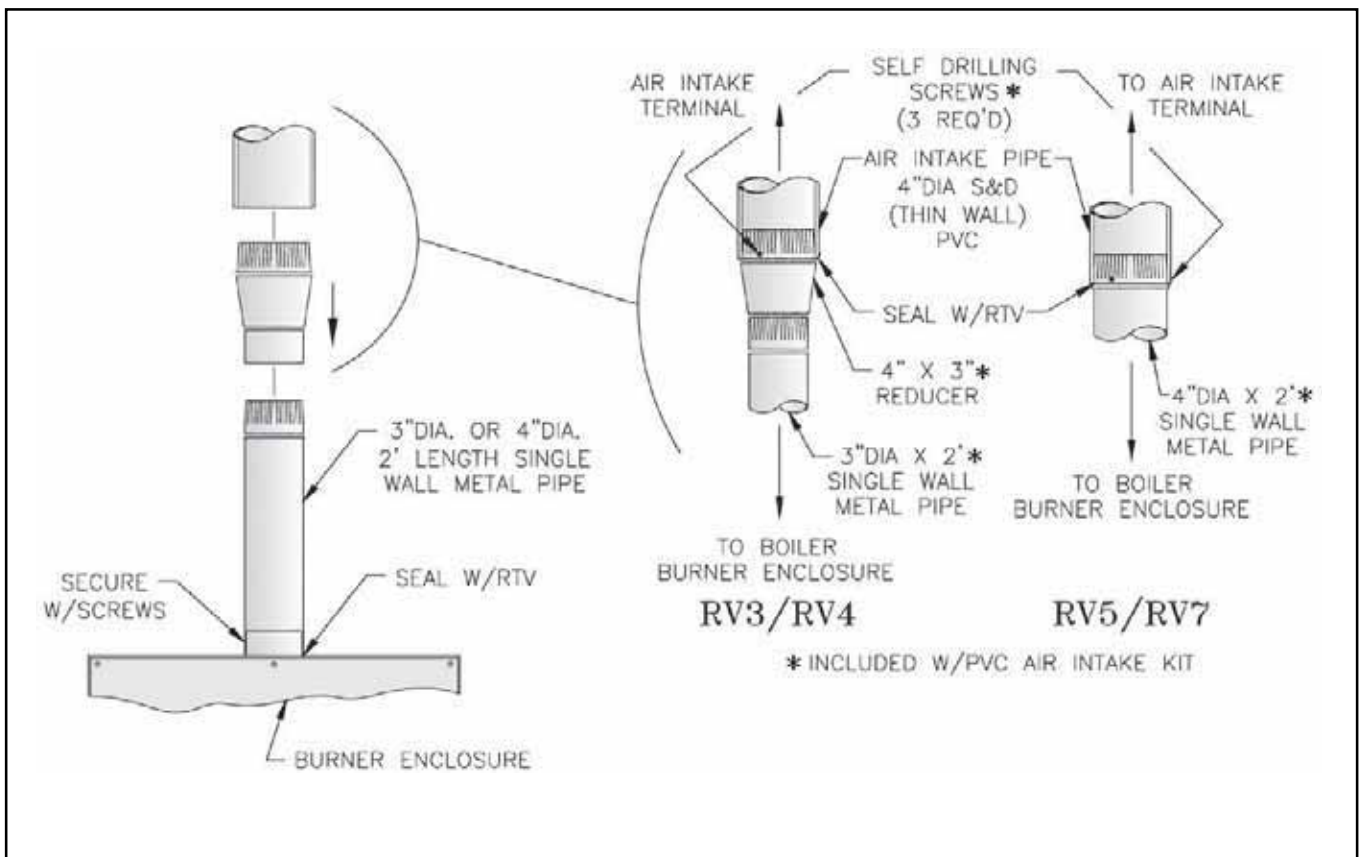
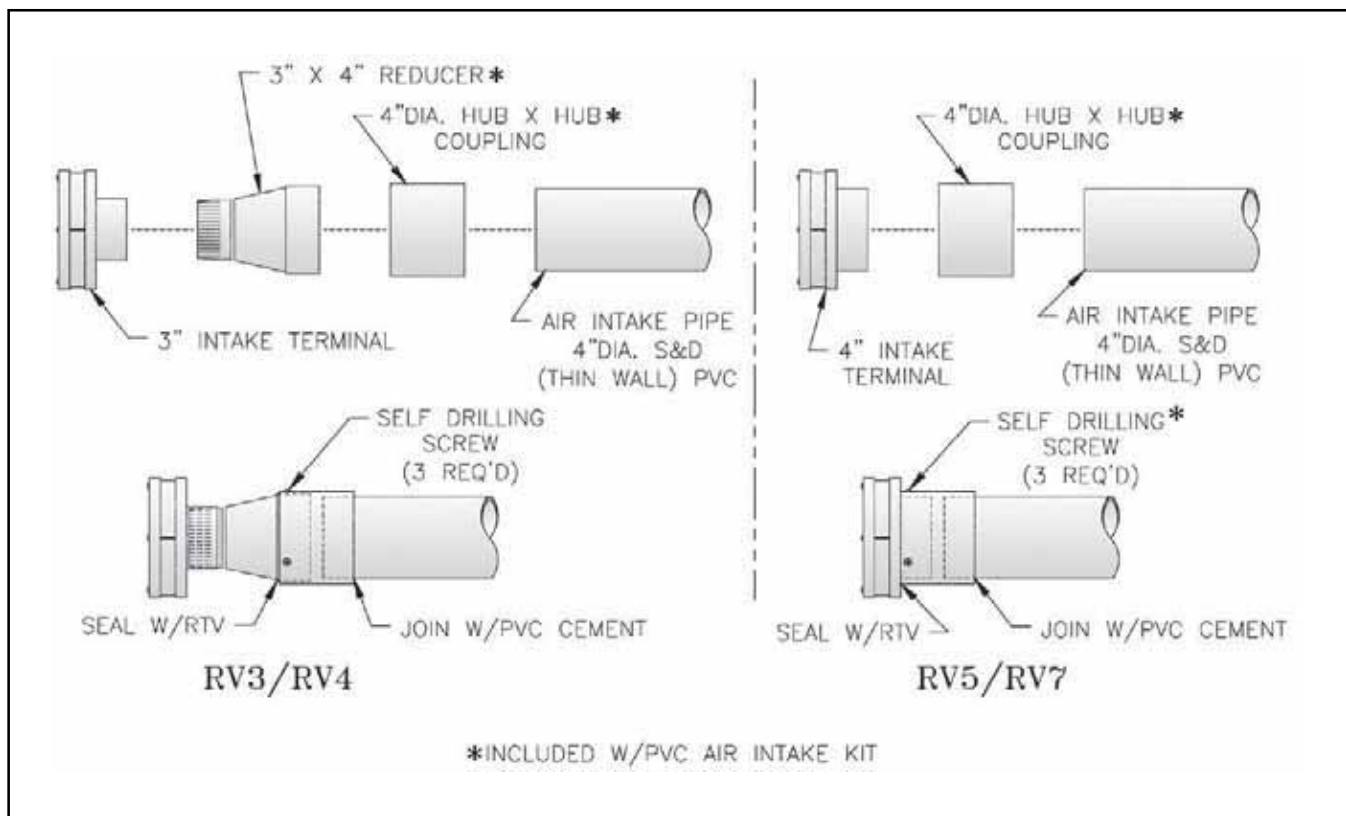

Figure 20: PVC Air Intake - Air Intake Pipe Installation
Figure 21: PVC Air Intake - Separate Horizontal/Vertical Air Intake Terminal Installation
K. PVC Air Intake System – See Figures 20, 21 and 22.
- a. Secure with three (3) sheetmetal screws.
- a. Secure 4 inch x 3 inch reducer onto two (2) foot section of single wall metal pipe. See Figure 20.
6. Insert and secure 4 inch diameter S & D (thin wall) PVC onto either 4 inch x 3 inch reducer (RV3-RV4) or 4 inch diameter two (2) foot section of single wall metal pipe (RV5-RV7). See Figure 20.
- a. Secure with three (3) self-drilling sheetmetal screws provided.
8. The air intake pipe must be adequately supported with straps or supports no less than five (5) feet apart on horizontal runs. The complete air intake piping system must be rigid and able to withstand minor impacts without collapse.
- a. Join PVC air intake piping to terminal using PVC coupling provided. See Figures 21 and 22.
Note: RV3-RV4 separate horizontal/vertical installations will require the 4 inch x 3 inch deceiver (provided) in addition with the PVC coupling to join the air intake piping and air intake terminal. See Figures 21 and 22.